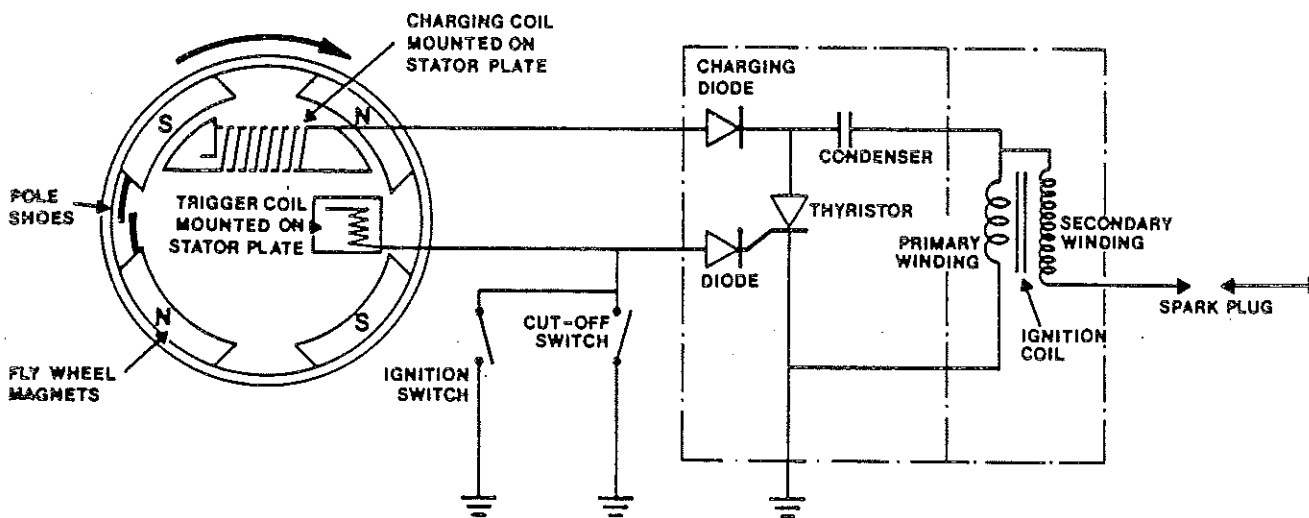

FIG. 7.2 CDI (THEORETICAL)
7.8 Ignition Operation. The switches in Fig. 7.2 are shown in the 'on' position, the engine is running.